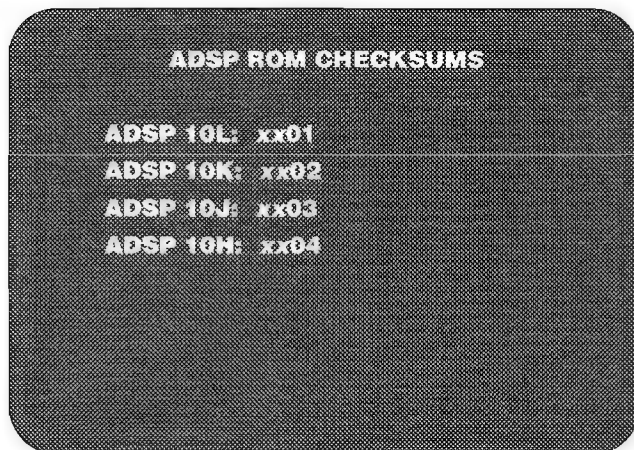

Figure 2-25 ADSP ROM Checksums Tests
- *ROM Checksums* tests the graphic ROMs on the ADSP board. When the checksum test is complete you will have a hexadecimal number following each ROM shown on the screen in Figure 2-25. The first two digits in each hexadecimal number can be anything, but the last two digits must be the ones shown in Figure 2-25. If they are not, then the ROM is bad or it is not on the board.